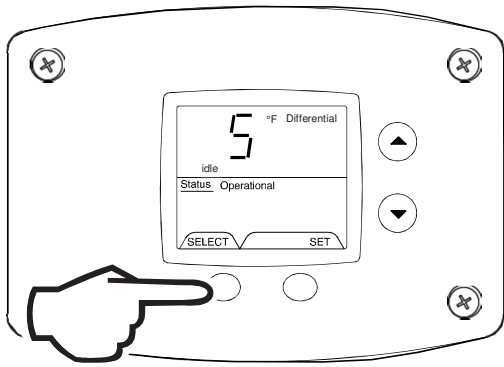

Fig. 39
- 6. Differential (Display only – shows the differential of the thermostat) (Fig. 39).